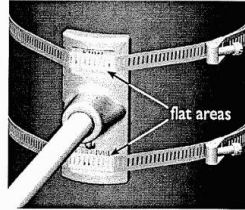

Figure 1
- 2 Install top arm first. Hold the casting up to the pole so that the word "BANNER" with arrows points **DOWN**. Wrap banding around pole at both the top part of the casting and the bottom part of the casting. Position the banding so that it goes over the flat areas on the casting. See Figure 1.